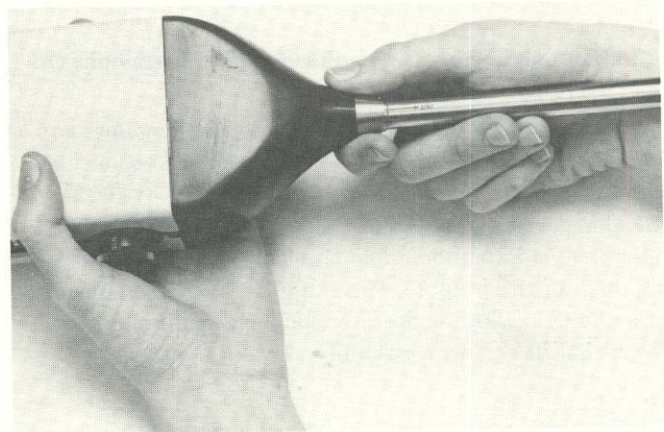

Figure 2-10. Removal of preamplifier. Use thumb and forefinger on nose cone, as shown, to guide preamplifier's casing.
c. With one hand, hold the top section of the 1988 securely. With the other hand, grasp the casing of the preamplifier such that the thumb and forefinger overlap onto the front of the 1988 nose cone; use the thumb and forefinger to guide the preamplifier as it is pulled directly away from the instrument (in the direction of the red arrow on its casing) with a force parallel to its axis (see Figure 2-10).